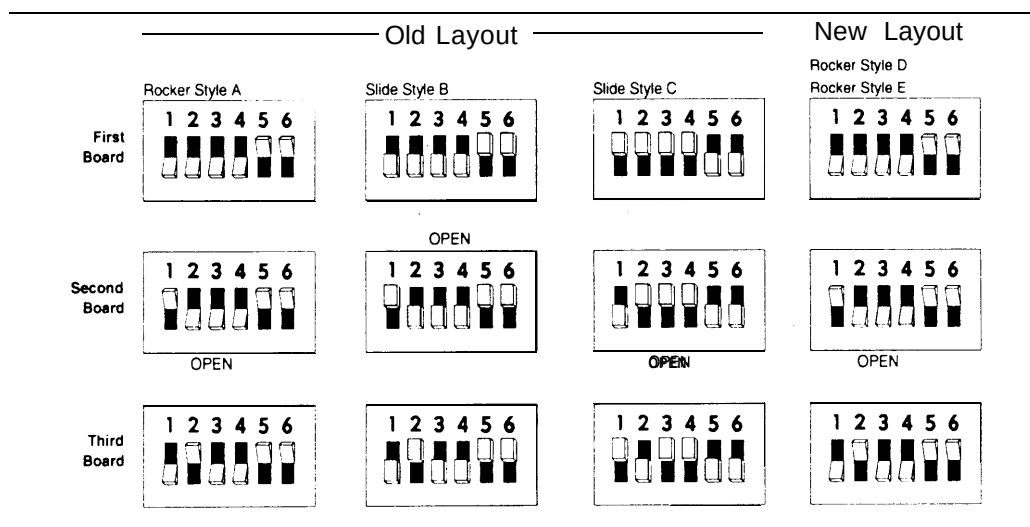

Figure 3-31. Address Switch Settings
All new layout boards (both IVP4 and IVP6) **with** audio jacks are style D. All new layout boards **without** audio jacks are style E. (See Figure 3-31.)
All old layout IVP6 boards are style C. (See Figure 3-31.)
For old layout IVP4 boards, examine the second bank of switches (SW12.1, on the right, see Figure 3-31):
- If the board has unmarked slide switches, the setting of the second switch (SW12.1) should correspond to one of the settings shown in Figure 3-31. Use the style letter at the top of the column in which the match is found.